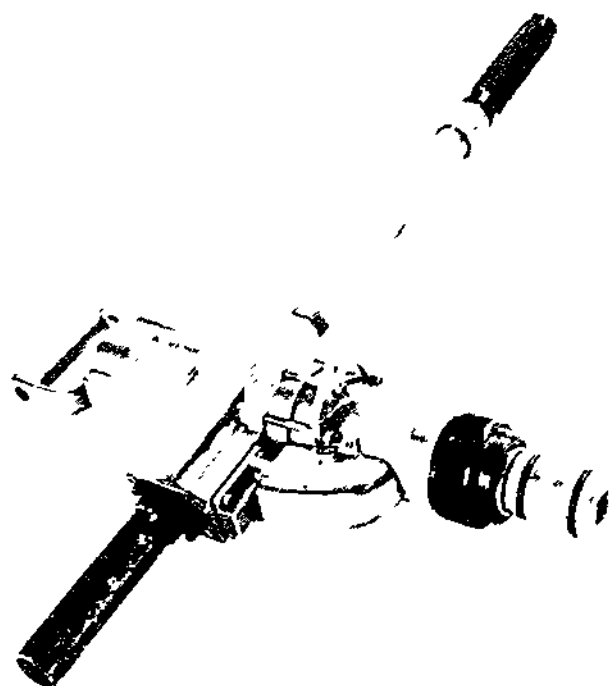

Figure 2-98. Torque Motor
- 3 Torque motor (for tube expanding) (Figure 2-98)